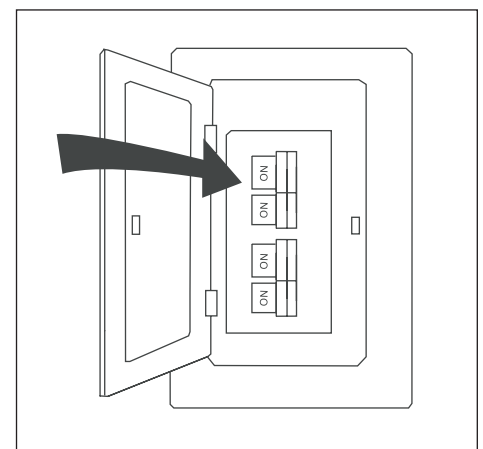

Figure 5.8
- Turn on power to fan at breaker box and the wall switch (Figure 5.8). Assembly is complete.